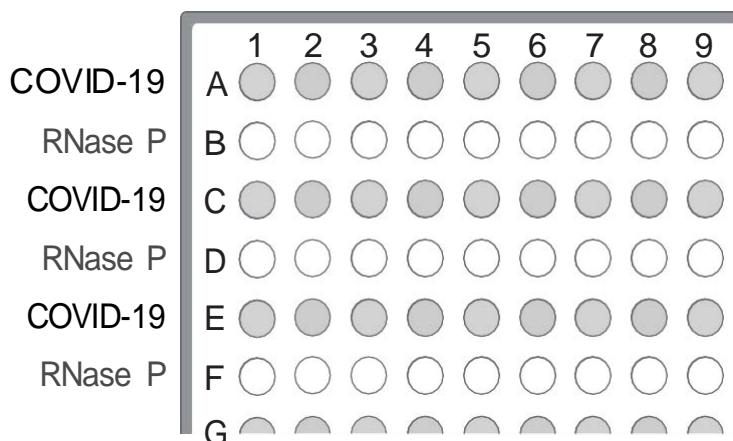

Figure 5 Assays in alternating plate rows
- Starting with row A, pipet 20.0 µL per well of the COVID-19 Reaction Mix into every other row of a MicroAmp™ Fast Optical 96-Well Reaction Plate with Barcode, 0.1 mL or a MicroAmp™ Optical 96-Well Reaction Plate with Barcode, 0.2 mL. See Figure 5 on page 61.